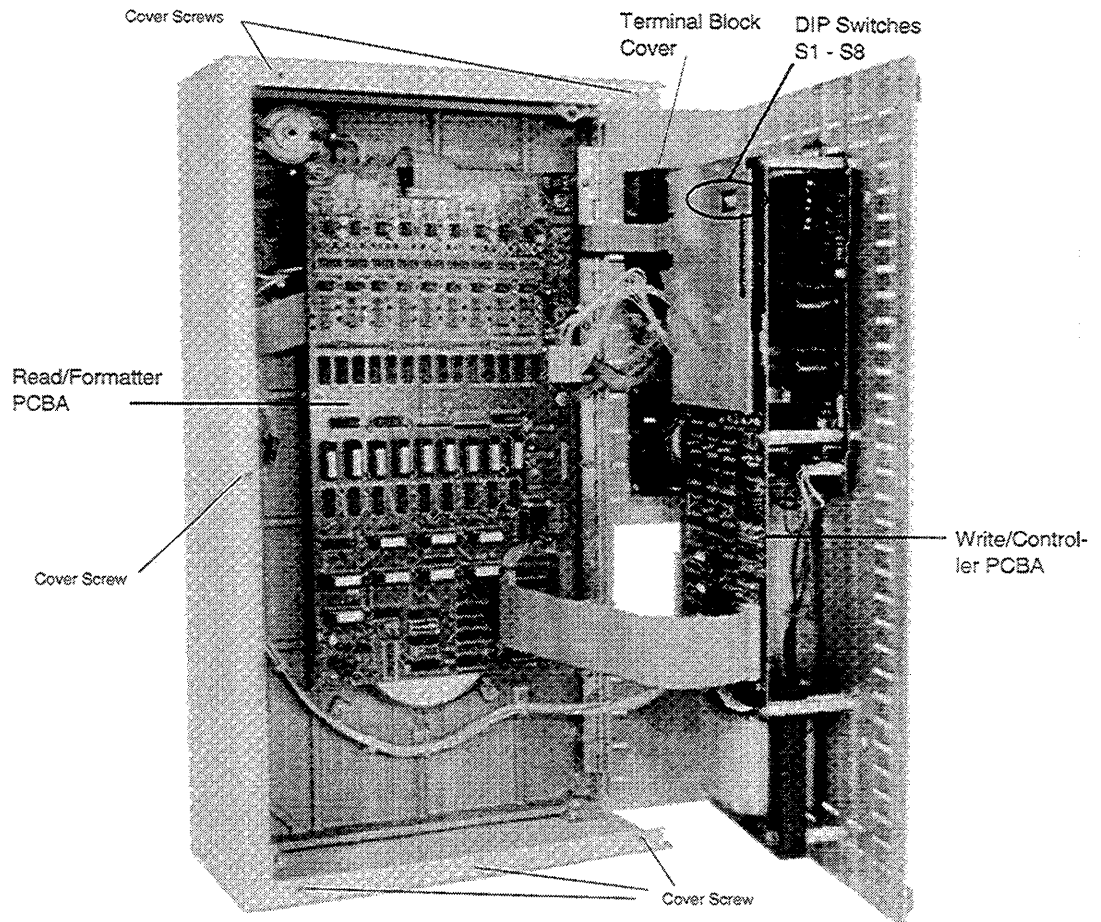

Figure 8-1
2. Remove the six large Phillips screws from the outside edges of the rear panel. Refer to Figure 8-1 for cover screw locations.
2. Connect the taps as shown in the table in Figure 8-1. When moving the power wire from terminal 1 or 2, move only the larger wire. The smaller wires remain in place.